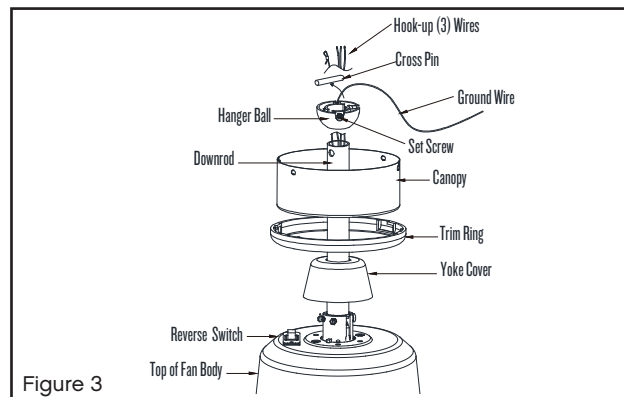

Figure 3
- 1 Slip the yoke cover, trim ring and canopy onto the downrod. (Fig. 3)